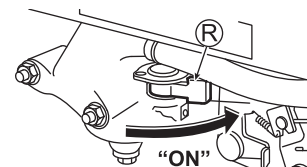

Fig. 10
2. Set the fuel cock (R) to "ON". (See Fig. 10)